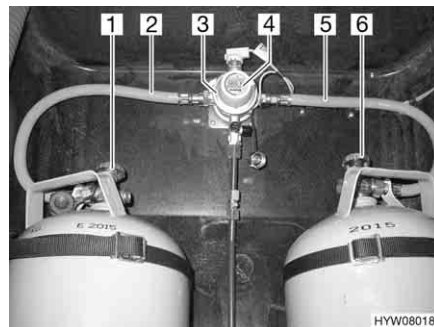
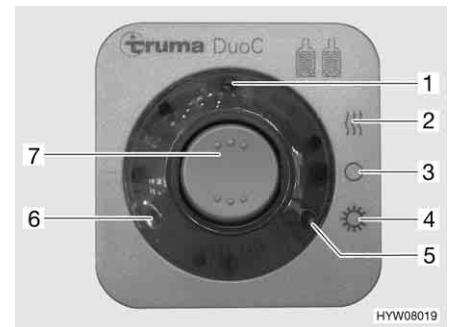

Fig. 156 DuoControl switching facility
Fig. 157 Operating unit
The DuoControl switching facility consists of a reversing valve (Fig. 156,3) and an operating unit (Fig. 157). The reversing valve is installed between the gas tubes (Fig. 156,2 and 5). The knob (Fig. 156,4) on the reversing valve is used to select which of the gas bottles is to be used as a primary bottle and which is to be used as a reserve bottle.
Only the electrical functions can be switched at the operating unit (Fig. 157). The regulator taps on the gas bottles (Fig. 156,1 and 6) must be opened manually.
The reversing valve provides a constant gas pressure, regardless of which gas bottle is being drawn upon. The two indicator lamps on the operating unit indicate the level of the primary bottle. When the green indicator lamp (Fig. 157,6) illuminates, the primary bottle is full. When the red indicator lamp (Fig. 157,5) illuminates, the primary bottle is empty. In this case, the reserve bottle is used for the gas supply.
- Open the regulator taps on the gas bottles (Fig. 156,1 and 6).
- Use the knob (Fig. 156,4) on the reversing valve (Fig. 156,3) to select the gas bottle which is to be the primary source of gas (primary bottle). Always turn the knob as far as it will go.
- Switch on the DuoControl switching facility at the operating unit (Fig. 157). To do so, set the rocker switch (Fig. 157,7) to winter operation "On and heating" (Fig. 157,2) or to summer operation "On" (Fig. 157,4). The reversing valve is now deaerated. The yellow indicator lamp (Fig. 157,1) illuminates if the winter operation has been selected and the regulator defroster is activated.
- Set the rocker switch (Fig. 157,7) to "O" (Fig. 157,3). The yellow indicator lamp (Fig. 157,1) goes out.
- Close the regulator taps on the gas bottles (Fig. 156,1 and 6).
The indicator lamps on the operating unit (Fig. 157,5 and 6) indicate in the vehicle interior whether the primary bottle is ready for operation.
If the green indicator lamp (Fig. 157,6) stops illuminating during operation and the red indicator lamp (Fig. 157,5) illuminates, the gas bottle selected as primary bottle is empty and needs to be changed. The reserve bottle continues supplying the gas appliances with gas.